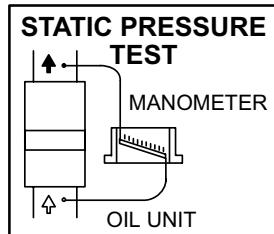

FIGURE 26
- 1 - Measure tap locations as shown in figure 26.